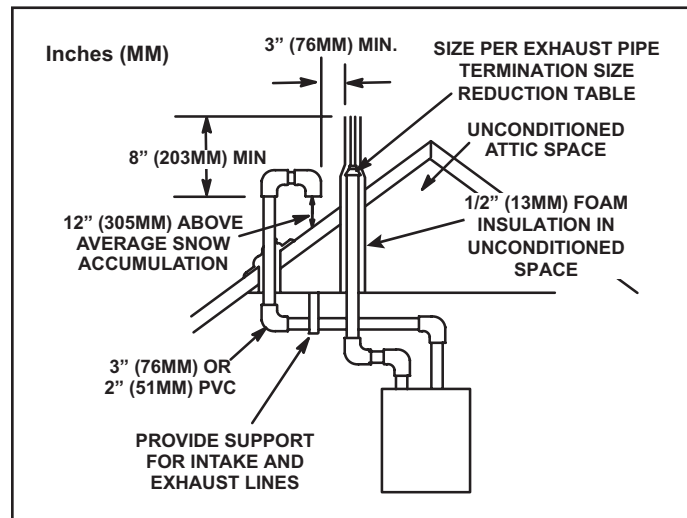

Figure 30. Direct Vent Roof Termination
Intake and exhaust pipes may be routed either horizontally through an outside wall or vertically through the roof. In attic or closet installations, vertical termination through the roof is preferred. Figure 30 through Figure 36 show typical terminations.
3. On roof terminations, the intake piping should terminate straight down using two 90° elbows (Figure 30).